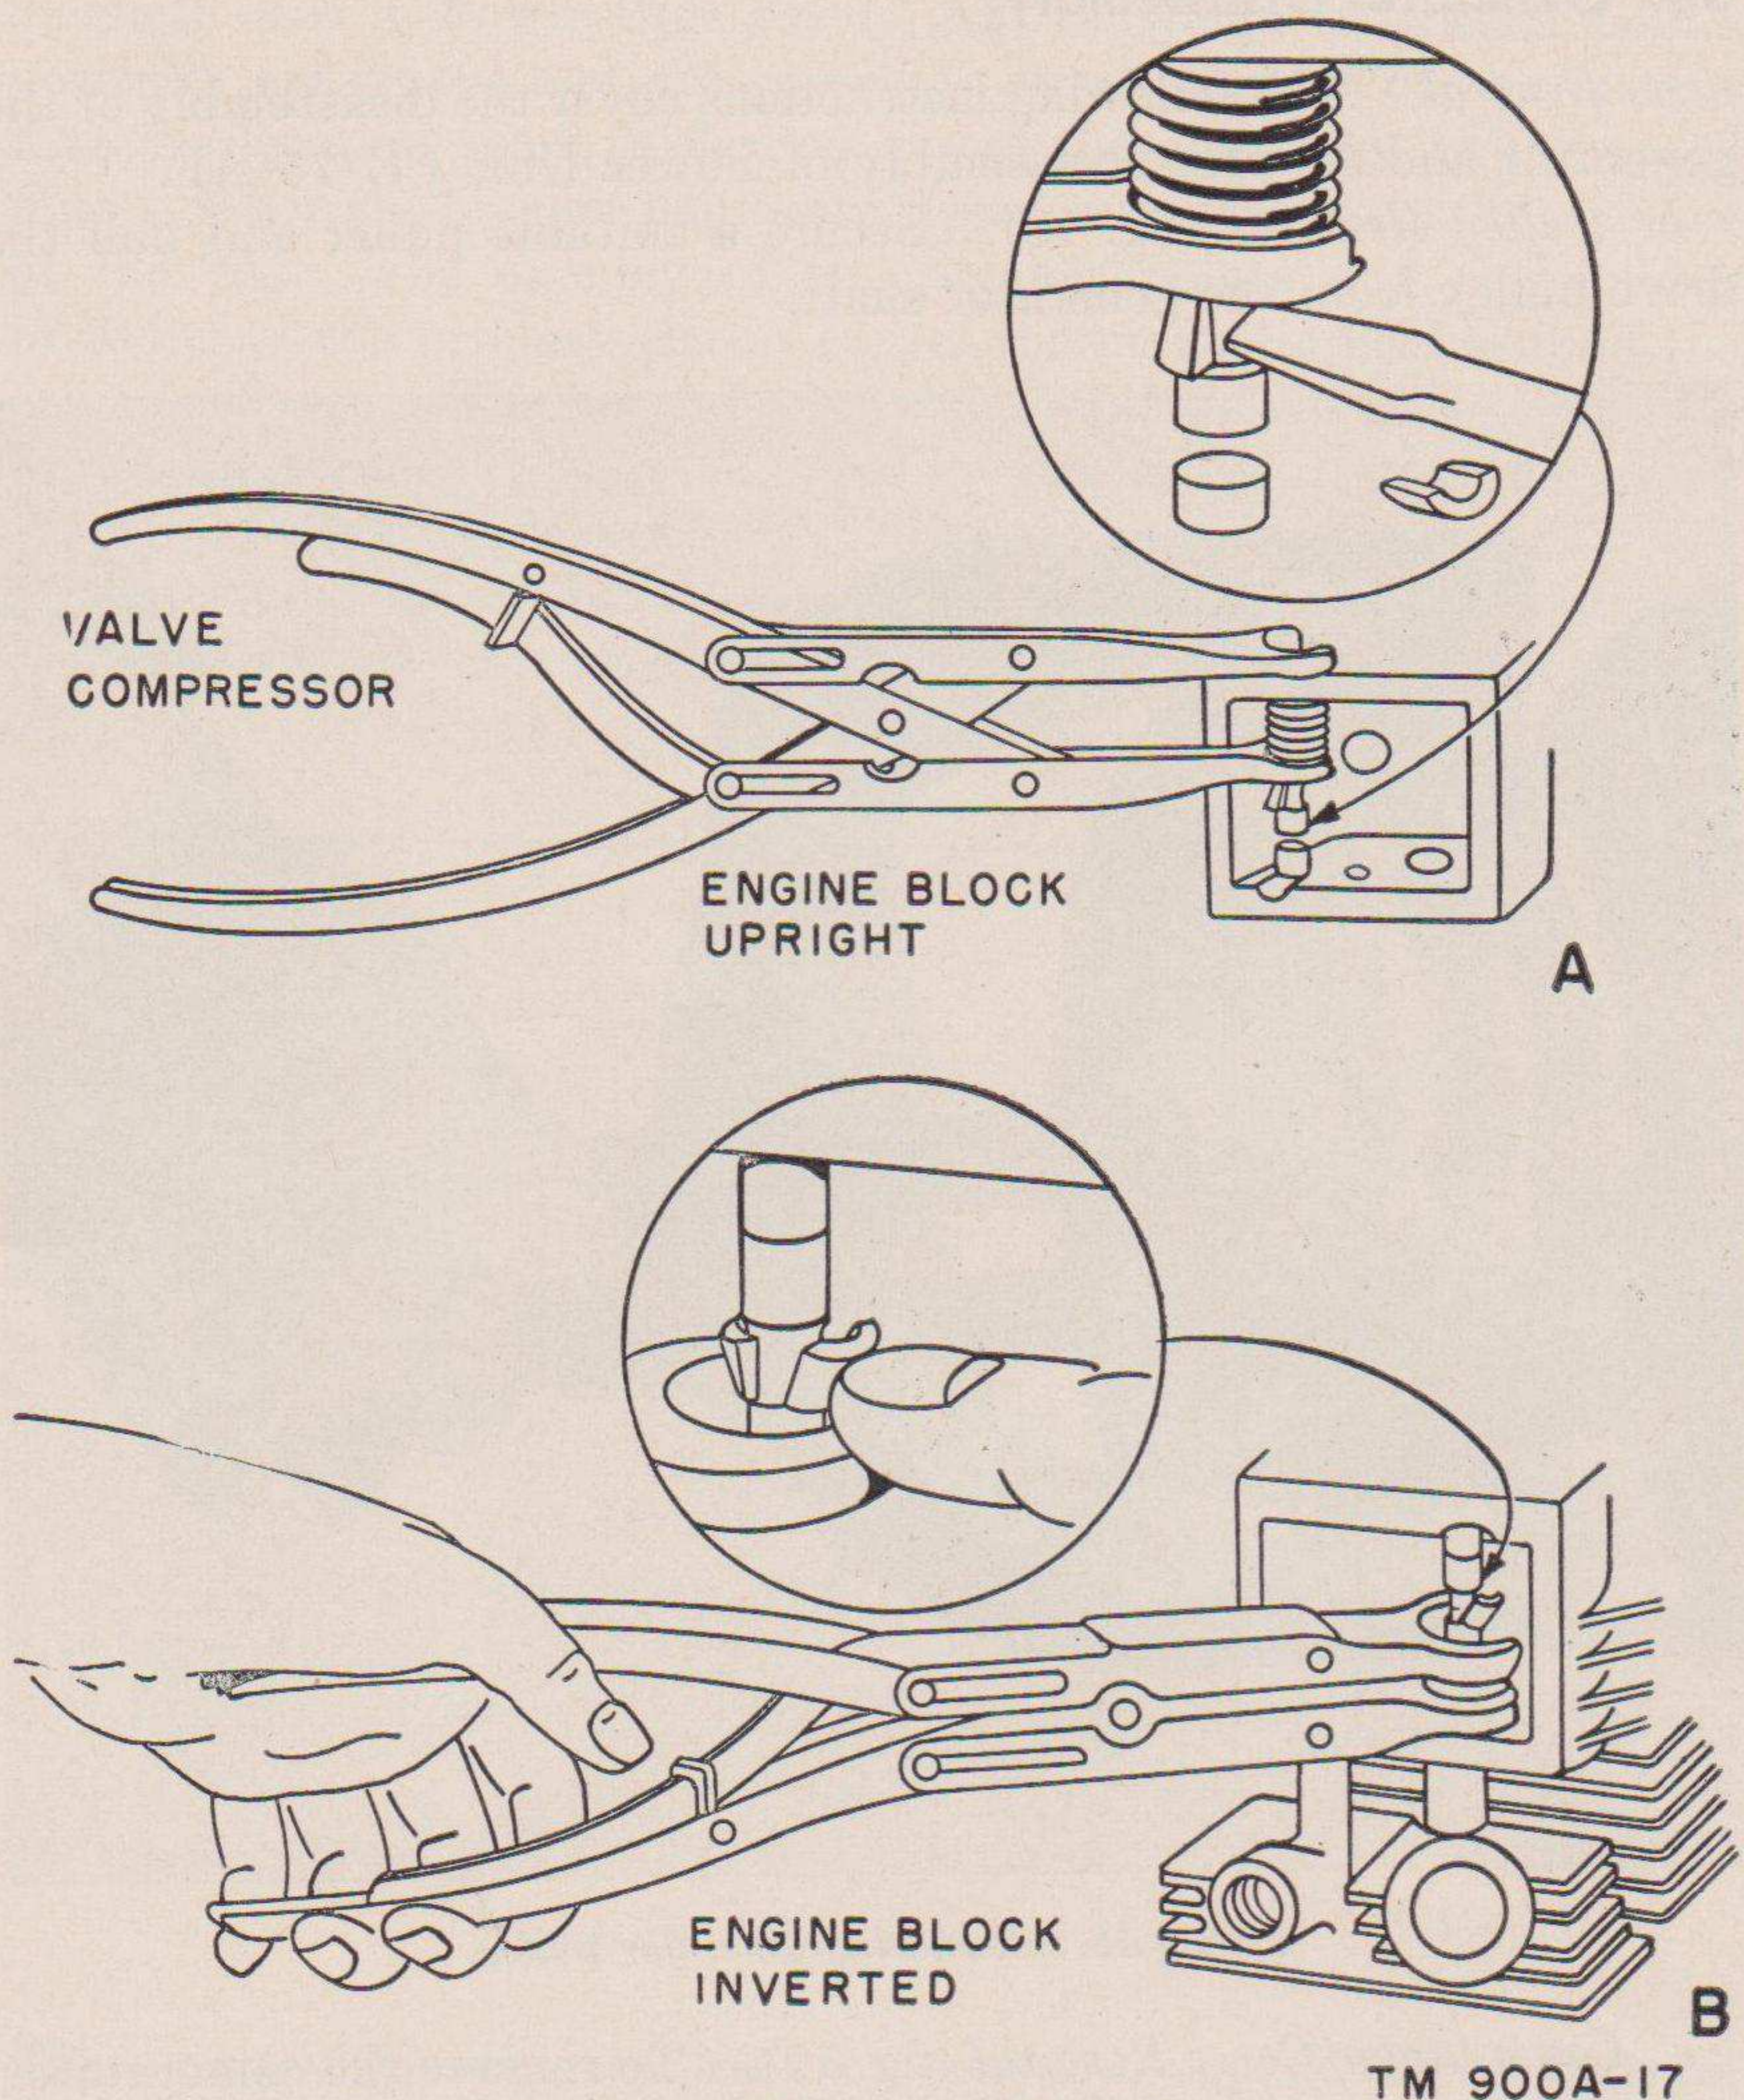

Figure 17. Removing valve springs.
h. Valve Removal (fig. 17). If it has not already been removed, remove the valve cover plate from the side of the cylinder. Use a valve spring compressor and compress the spring on one of the valves until the small wedge keys can be removed. Remove the keys and lift the valve from the cylinder. Repeat this operation for the other valve and then pry out the valve springs.